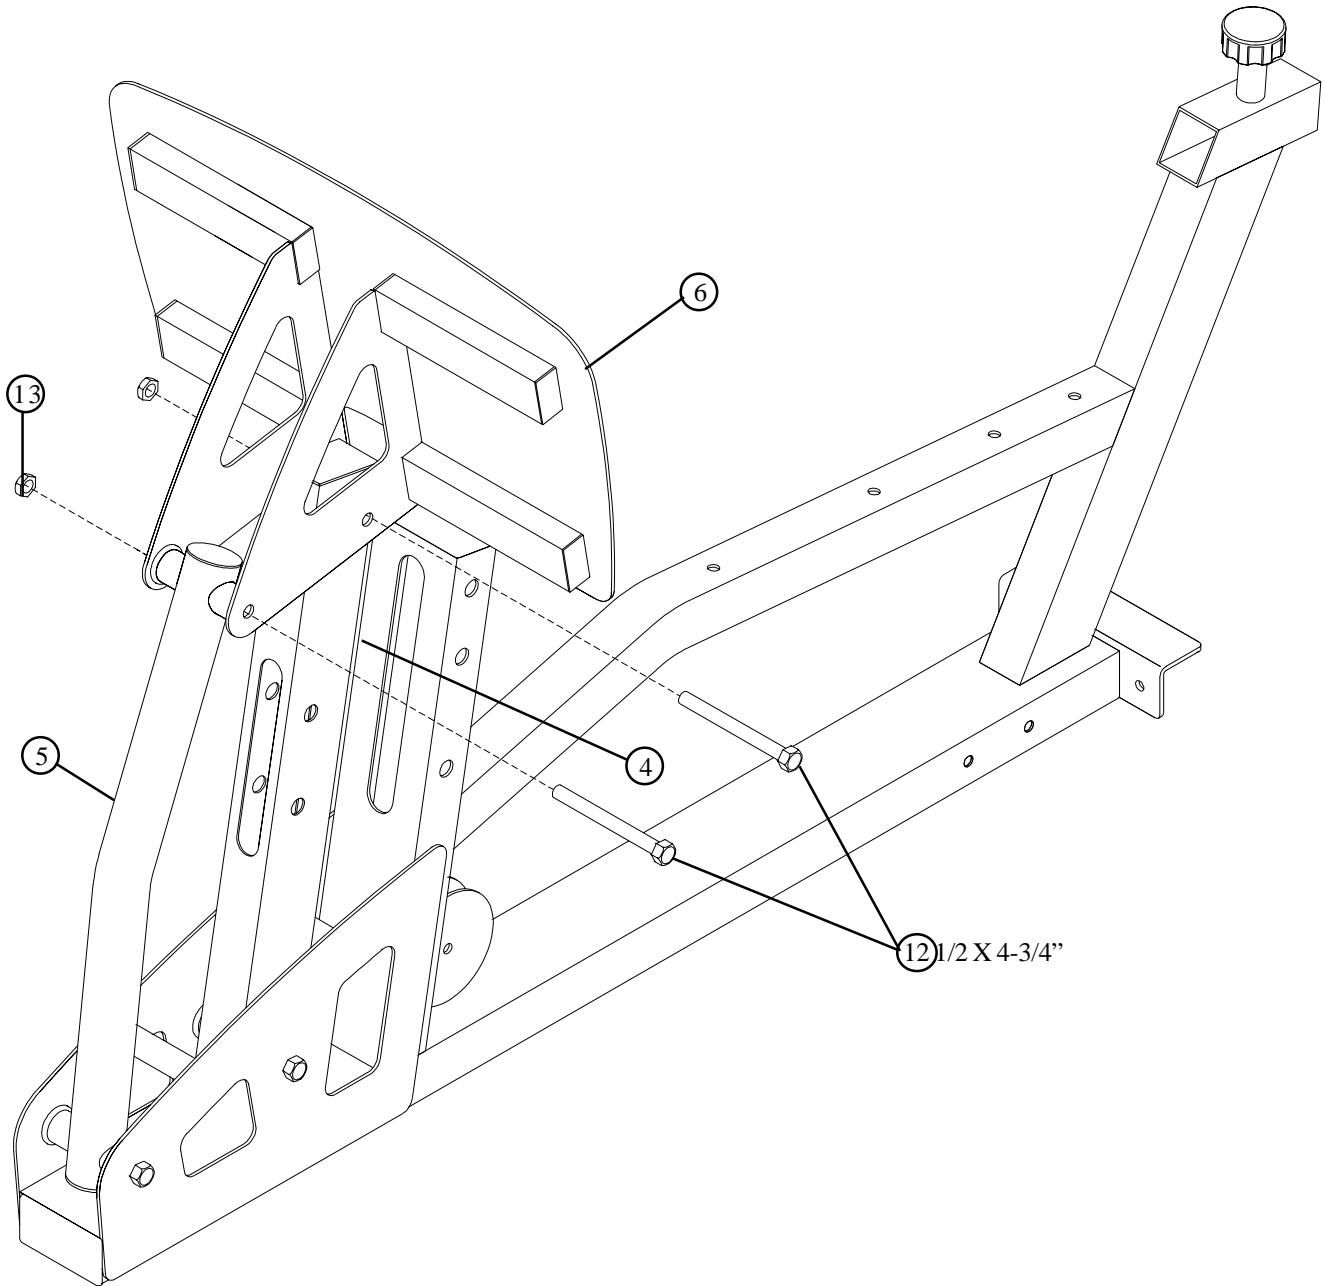

**FIGURE 3**
- Insert one 3/4 X 4" SHAFT (15) thru pre-installed FLANGE BEARINGS in the SECOND ARM (5) as shown in FIGURE 3.
- Insert one 3/4 X 4" SHAFT (15) thru pre-installed FLANGE BEARINGS in the MAIN ARM (4) as shown in FIGURE 3.